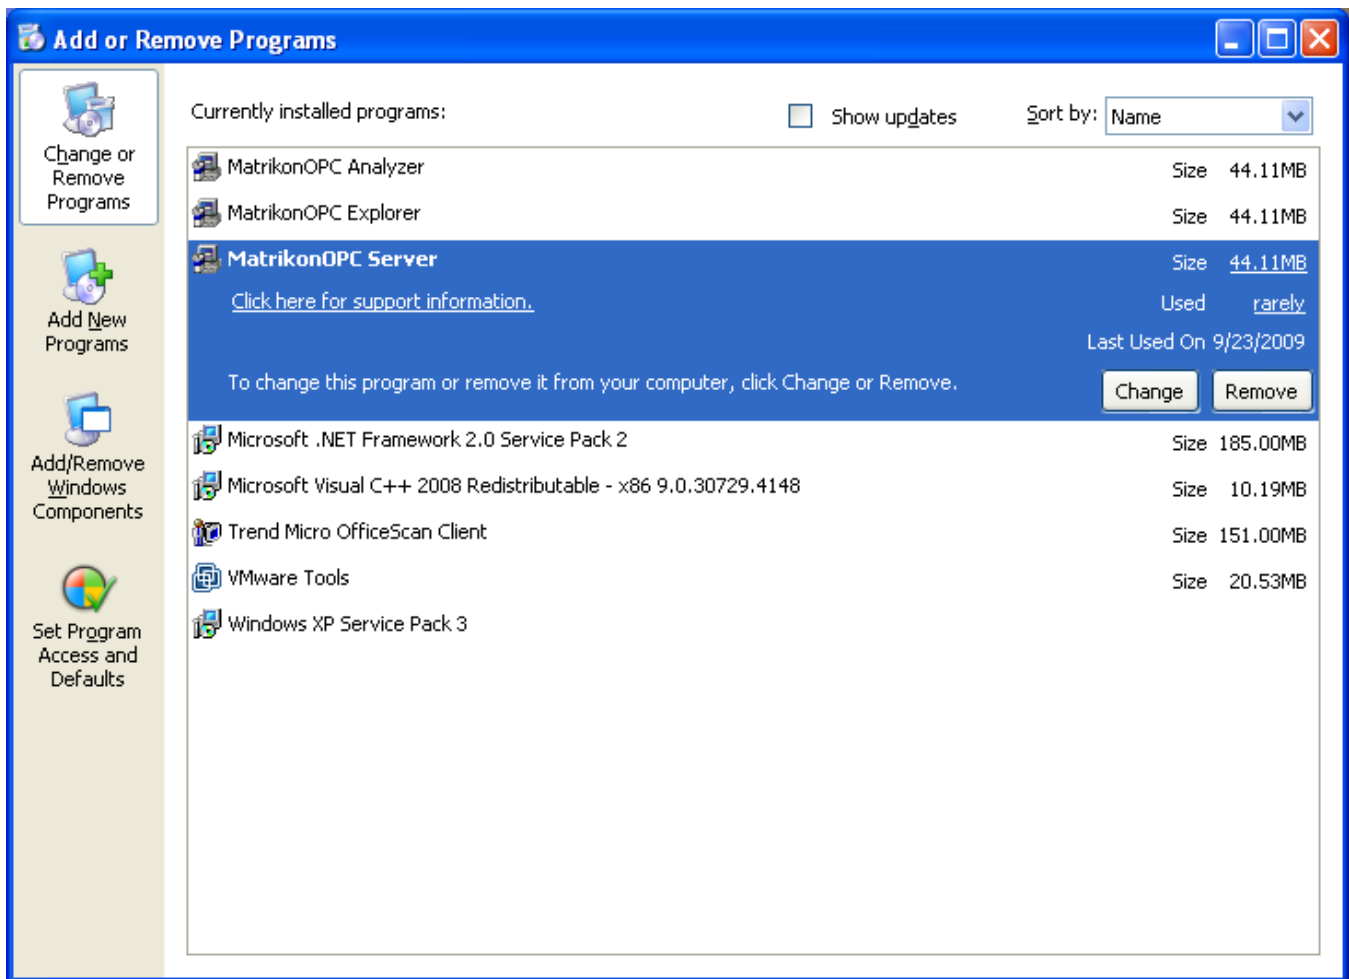

Figure 89 – Add or Remove Programs
3. The **Add or Remove Programs** window (Figure 89) is displayed.